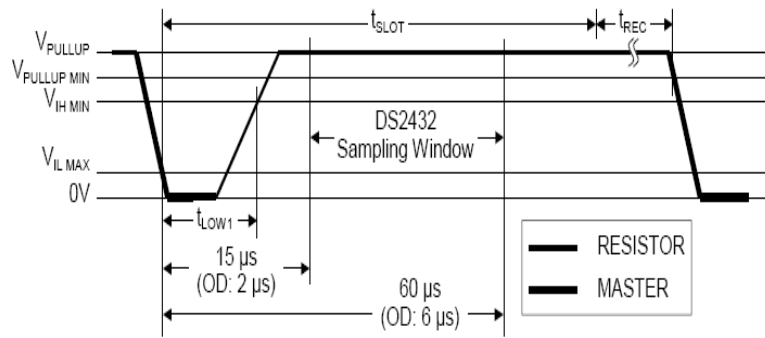

Fig4-98 - Write-one Time Slot
1-WIRE is a non-synchronous half-duplex serial transmission, which requires only one OWIO to transmit data. The typical 1-WIRE transmission structure is illustrated in Figure4-98. During the 1-WIRE transmission, the OWIO can be used to transmit data and supply power to all devices connected to the 1-WIRE . OWIO will link to a 4.7K Ohm Pull-High electric resistance which is linked to the power supply (3V-5.5V). The transmission speed for 1-WIRE can be divided into two types, Standard and High speed. Every 1-WIRE has a unique 64-bit code for the device to recognize. Therefore, the maximum number of link devices is 1.8; almost unlimited.
B. Write 1: If the sampling is high, 1 is generated (note: Read 1 is of a similar waveform pattern) as in Fig4-98: